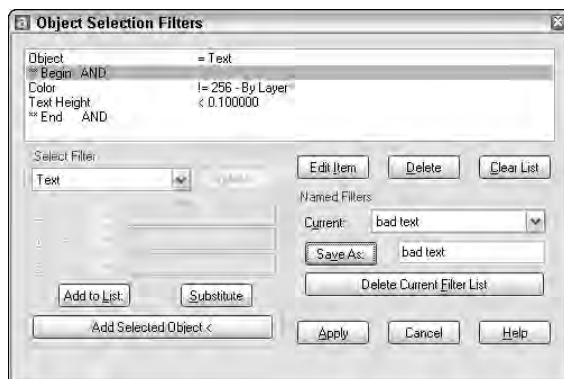

Figure 10-45: A filter that selects all text whose color is not BYLAYER
12. In the Save As text box, type **bad text**. Click Save As. The Object Selection Filters dialog box should look like Figure 10-45.